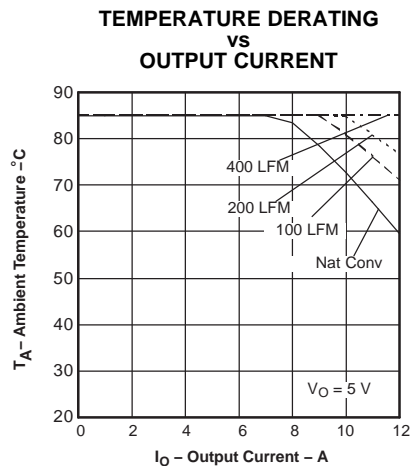
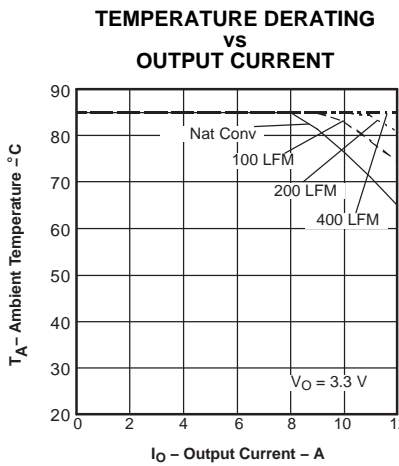
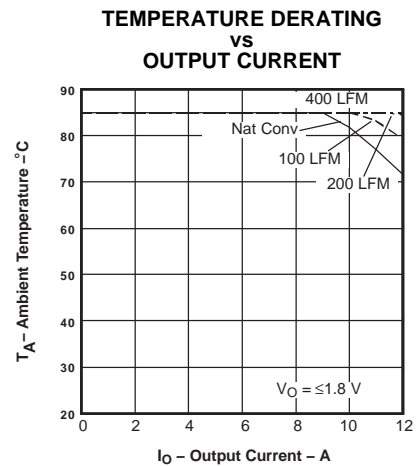

Figure 4.
Figure 5.
Figure 6.
- (2) The temperature derating curves represent the conditions at which internal components are at or below the manufacturer's maximum operating temperatures. Derating limits apply to modules soldered directly to a 4 inch × 4 inch double-sided PCB with 2 oz. copper. For surface mount packages (AS and AZ suffix), multiple vias (plated through holes) are required to add thermal paths around the power pins. Please refer to the mechanical specification for more information. Applies to Figure 4, Figure 5, and Figure 6.